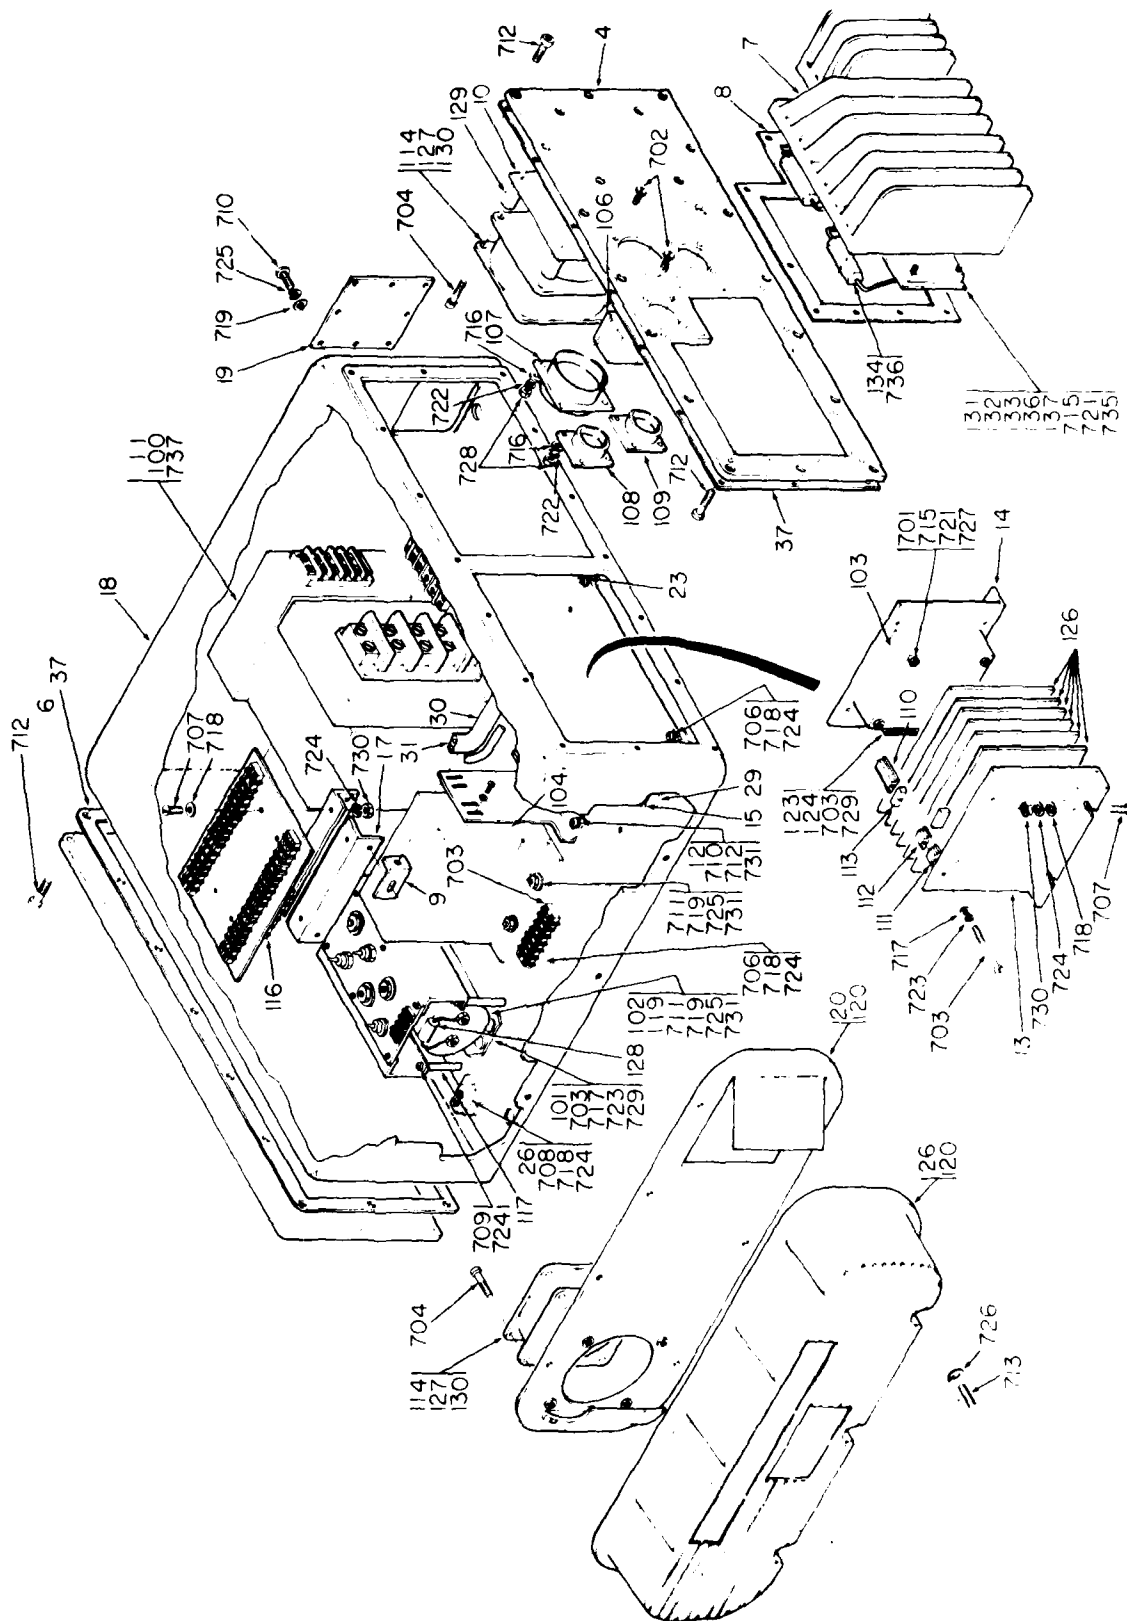

Figure 5.2. Disassembling the Electronics Base
- a. Disconnect cables from connectors J101, J102 and J103 (107, 108, 109, Figure 5.2).
- b. Remove 28 screws (712) and front cover (4). Do not remove heat sink (7) from cover.
- c. Inspect gasket (37) under the cover. If gasket was damaged during cover removal, remove the gasket, scrape mating surfaces clean then install new gasket.
- b. Remove four screws (702, Figure 5.2) and nuts (728), and remove J102 (107) from the front cover (4).
- c. Disconnect the wires on the load side of CB1 (106).
- f. Remove the wires from TB 110 (121).
- a. Remove 28 screws (712, Figure 5.2), and rear cover (6).
- b. Inspect gasket (37) under cover. If gasket was damaged during cover removal, remove gasket, scrape mating surfaces clean, then install new gasket.
- c. Remove four large screws (737) that fasten the searchlight power supply (100) to the electronics base. Two screws are at the front and two at the rear.
- a. Install searchlight power supply (100, Figure 5.2) in electronics base. Slide power supply as far forward as possible.
- c. Apply screw thread compound (loctite) to four large power supply mounting screws (737). Install screws.
- d. Install rear cover (6), gasket (37) and 28 screws (712).
- a. Connect wires to terminal boards TB101 and TB102 on printed circuit card rack plate (13, Figure 5.2).